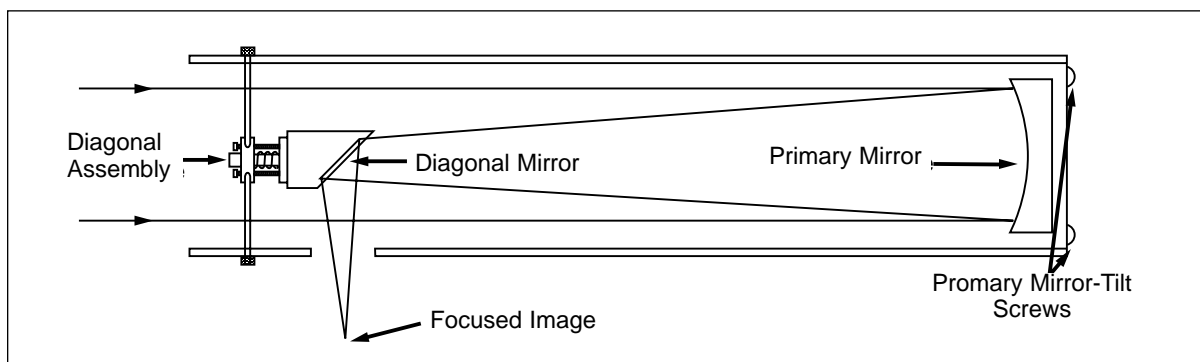
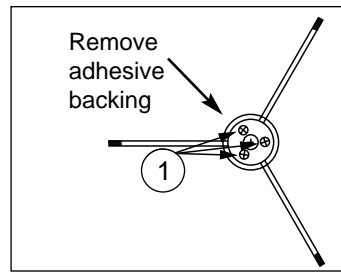
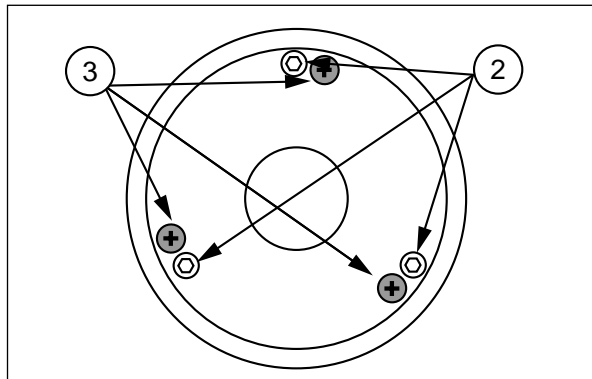

Fig. 4: The Newtonian Reflecting Telescope.
Fig. 5: Diagonal Assembly.
Fig. 6: Primary Mirror Cell.
The properly collimated (aligned) mirror system in the Jupiter 114 EQ-D assures the sharpest images possible. This occurs when the primary mirror and diagonal mirror are tilted so that the focused image (see Fig. 4) falls directly through the center of the focuser drawtube (17, Fig. 1). These mirror tilt adjustments are made with the diagonal assembly (Fig. 5) and the primary mirror cell (Fig. 6), and will be discussed later.
Any deviation from the concentric reflections will require adjustments to the diagonal assembly (Fig. 5), and/or the primary mirror cell (Fig. 6).
If the diagonal mirror (1, Fig. 8) is centered in the drawtube (2, Fig. 8), but the primary mirror is only partially visible in the reflection (3, Fig. 8), the 3 Phillips-head diagonal tilt screws (1, Fig. 5. Note: To adjust these screws you must first remove an adhesive backing) must be unthreaded slightly to the point of where you can tilt the diagonal holder (3, Fig. 5) from side-to-side by grasping the diagonal holder with your hand and tilt until you see the primary mirror become as centered in the reflection of the diagonal mirror as possible. Once you are at the best position, thread in the 3 Phillips-head diagonal tilt screws to lock the rotational position. Then, if necessary, make adjustments to these 3 Phillips-head screws to refine the tilt-angle of the diagonal mirror until the entire primary mirror can be seen centered within the diagonal mirror reflection. When the diagonal mirror is correctly aligned, it will look like Fig. 9. (Note: the primary mirror is shown out of alignment.)
If the diagonal mirror (1, Fig. 9) and the reflection of the primary mirror (2, Fig. 9) appear centered within the drawtube (3, Fig. 9), but the reflection of your eye and the reflection of the diagonal mirror (4, Fig. 9) appear off-center, you will need to adjust the primary mirror tilt Phillips-head screws of the primary mirror cell (3, Fig. 6). These primary tilt screws are located behind the primary mirror, at the lower end of the main tube. See Fig. 4. To adjust the primary mirror tilt screws, first unscrew several turns, the 3 hex-head primary mirror cell locking screws (2, Fig.6) that are next to each primary mirror tilt Phillips-head screw. Then by trial-and-error, turn the primary mirror tilt Phillips-head screws (3, Fig. 6) until you develop a feel for which way to turn each screw to center the reflection of your eye. Once centered, as in Fig. 7, turn the 3 hex-head primary mirror cell locking screws (2, Fig. 6) to relock the tilt-angle adjustment.
- If the out-of-focus star disk appears elongated (Fig. 10A), you will need to adjust the primary mirror Phillips-head tilt screws of the primary mirror cell (3, Fig. 6).
- To adjust the primary mirror tilt screws (3, Fig. 6), first unscrew several turns the 3 hex-head primary mirror cell locking screws (2, Fig. 6), to allow free turning movement of the tilt knobs.
- As you make adjustments to the primary mirror tilt screws (3, Fig. 6), you will notice that the out-of-focus star disk image will move across the eyepiece field. Choose one of the 3 primary mirror tilt screws and slightly move the shadow to the center of the disk. Then slightly move the telescope using the flexible cable controls to center the star disk image in the center of the eyepiece.
- With the star testing of the collimation complete, tighten the 3 hex-head primary mirror locking screws (2, Fig. 6).